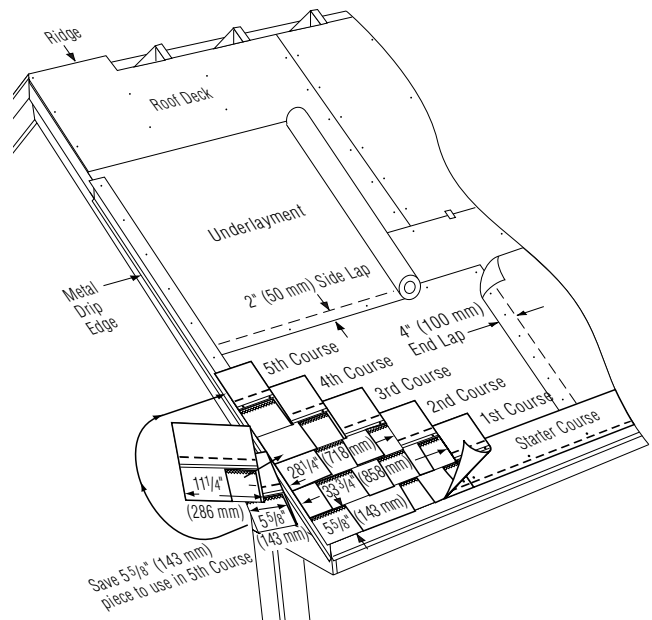

Figure 15-10: Applying the first 5 courses of Metric dimension. Note: The LandMark TL dimensions differ (see instructions below.)
1ST COURSE: Apply a full shingle at the lower left corner of the roof. Make the lower edge and left edge lie flush with the edges of the starter course (*Figure 15-10*).
1. Cut 5⅝" off the left end of the first shingle and save this piece for later use. Apply the 33⅝" (34⅜" for Landmark TL) long piece over and above the first-course shingle. Leave the bottom 5⅝" tab portion of the first-course shingle exposed (*Figure 15-10*).